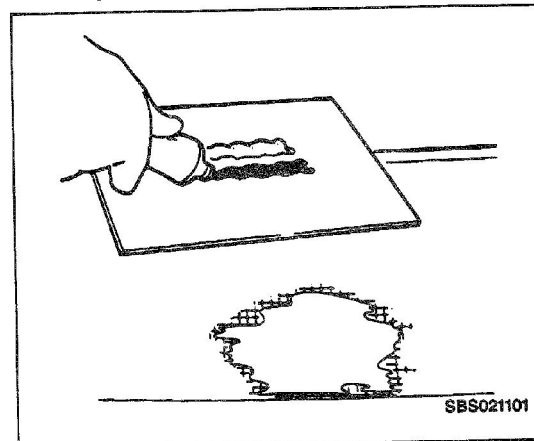

Figure 14—Measuring Two-Component Repair Material
4. On a clean, flat surface of nonporous material such as metal, glass or plastic, deposit two equal length beads (1 bead for each component) of 3M Flexible Parts Repair Material P/N 05900, or equivalent (Figure 14). With a paddling motion, mix the two components until a uniform color and consistency is achieved.
### Figures 14 and 18 through 23
4. On a clean flat surface of nonporous material such as metal, glass or plastic, deposit equal length beads of 3M Flexible Parts Repair Material P/N 05900, or equivalent (Figure 14). With a paddling motion, mix the two components until a uniform color and consistency is achieved. Apply